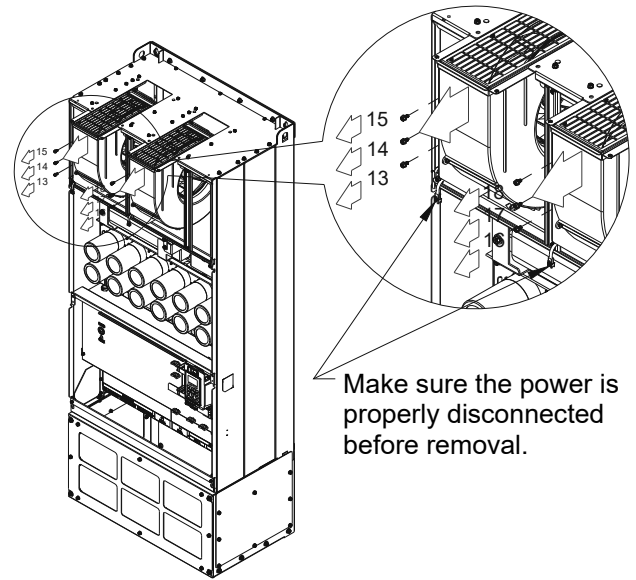

Figure 4
4. Loosen the screw 13–18 and remove the fan. Screw torque: 24–26 kg-cm / [20.8–22.6 lb-in] / [2.4–2.5 Nm] (as shown in figure 4)